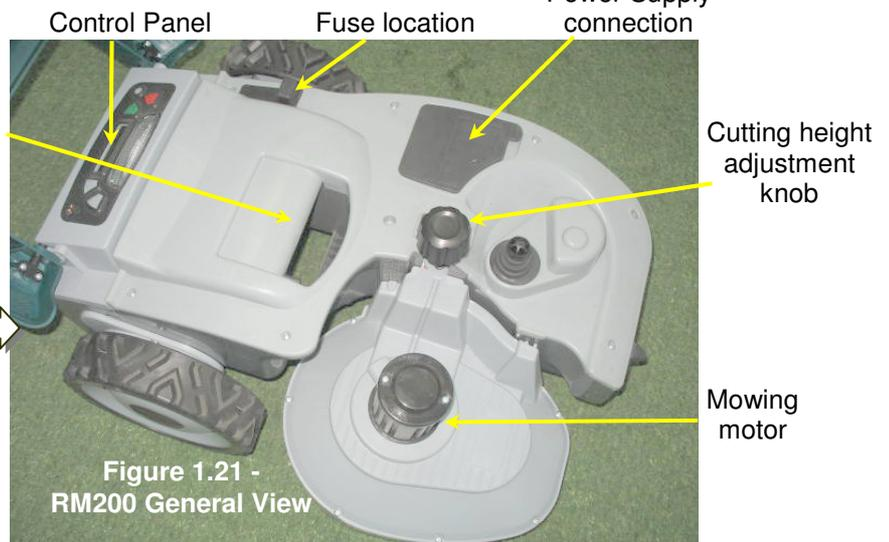

Figure 1.21 -
- To change the cutting height, rotate the cutting height adjustment knob (see figure 1.21).